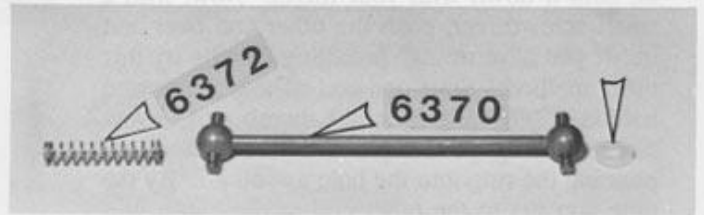

Fig. 115
-109- Before proceeding with the assembly of the rear hub carrier it's a good idea to check fit of the dogbone in the stub axle. If it does not slide and swivel freely then check for burrs around the dogbone pins or heat treating residue inside the stub axle. Also check that the spring fits freely in the small hole at the bottom of the dogbone socket (see Fig. 115). If either of these holes are clogged they can be cleaned by soaking the stub axle in hot or boiling water for a half hour. Dry and oil the stub axle after cleaning.